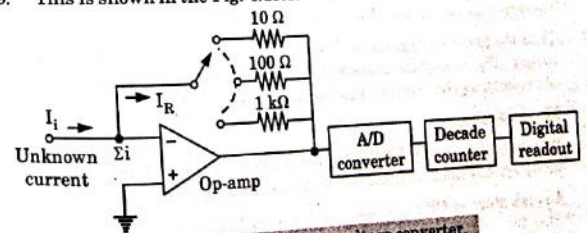

Fig. 4.19.3. Current to voltage converter.
9. This is shown in the Fig. 4.19.3.